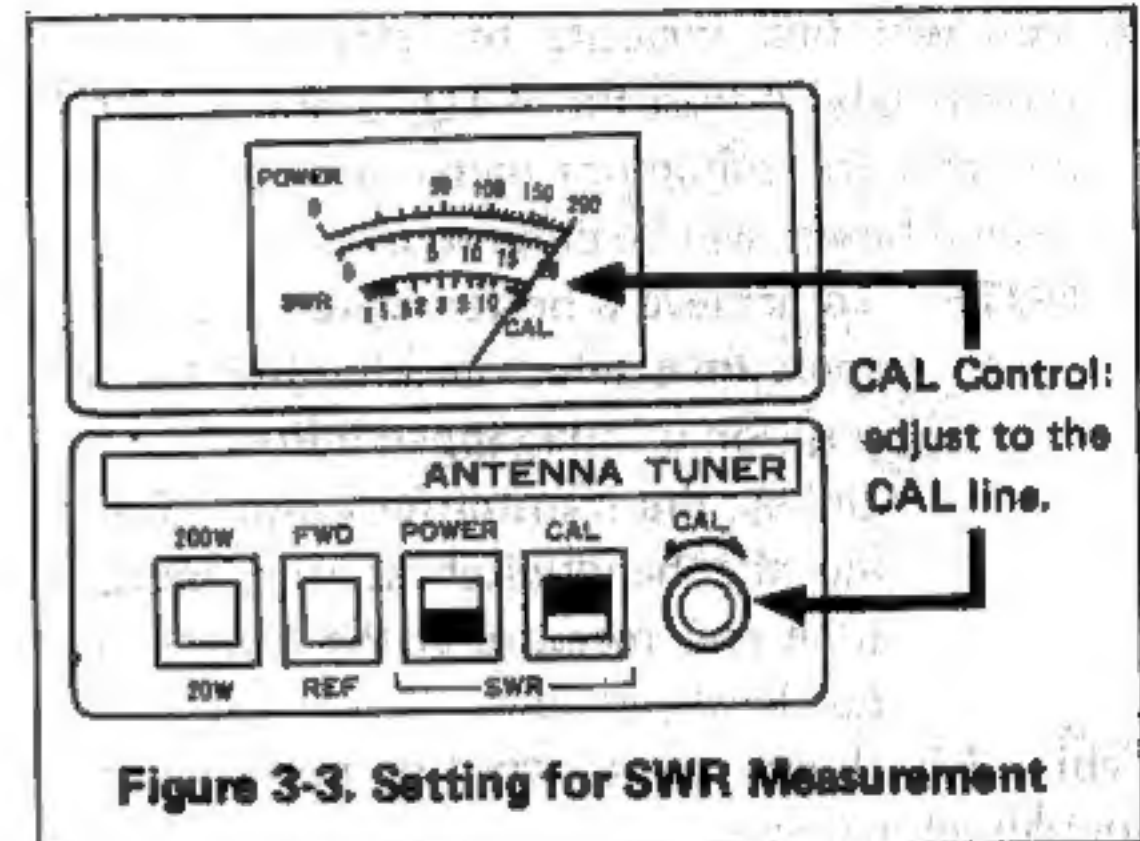

Figure 3-3. Setting for SWR Measurement
- Set the controls as illustrated in Figure 3-3. Set the ANT switch to the "THROUGH" position to which the desired antenna is connected.